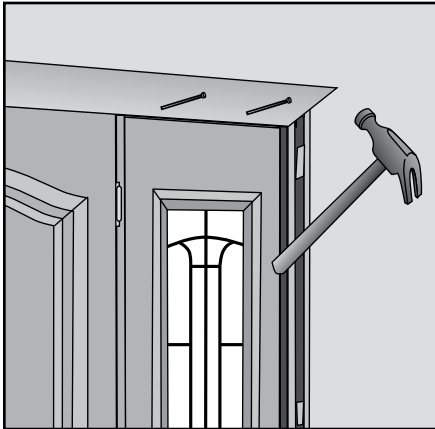

Fig. 34
- B. Measure, cut and set one trim leg. Reveal of the trim to be approximately 3/16" from inside edge of jamb. Measure both ends of head trim, cut, if necessary, then set (**Fig. 34**). Measure, cut and set other trim leg.